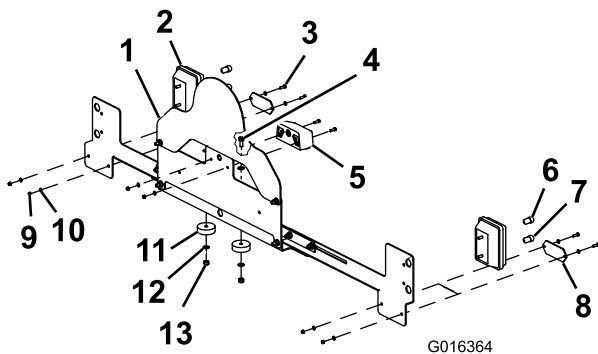

Figure 10
- Secure the lighting board to the rear cross member with 2 bolts (M8), 4 washers (M8), 2 nylon spacers, and 2 locknuts (M8) (Figure 10).
- Assemble the 2 indicator bulbs, 2 side light bulbs, 2 rear indicator lights, 2 reflectors, and the license plate lamp to the tail board with 6 hex-head bolts (M5), 10 washers (M5), and 6 locknuts (M5) as shown in (Figure 10).